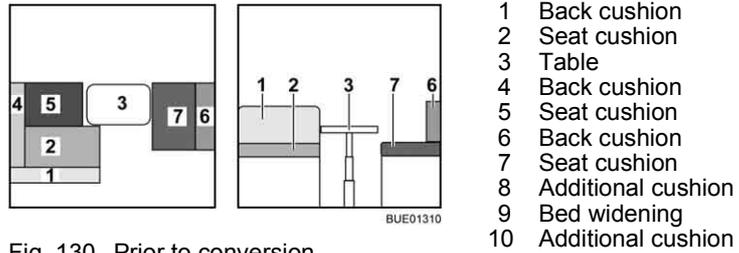

Fig. 130 Prior to conversion
- Convert the table (Fig. 130,3) to a bed foundation (see section 6.10).
- Remove the back cushions (Fig. 130,1 and 4) and lay them aside.